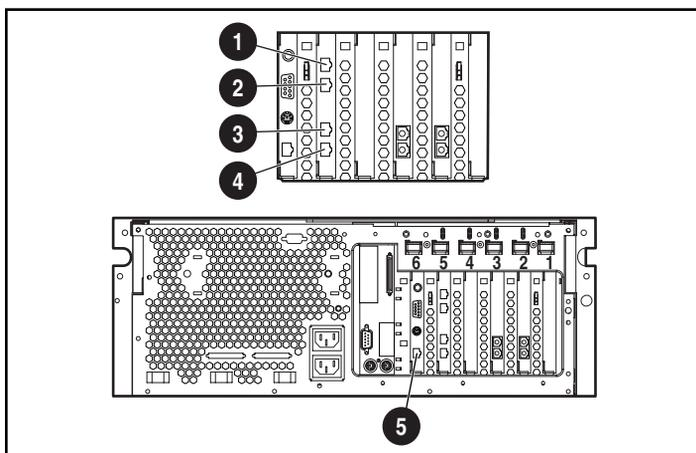

Figure 3-1: NAS E7000 Ethernet connectors
1. Connect the Ethernet cables to the respective network ports of the NAS E7000 and the corresponding network segments in accordance with the information in the “Initialization Information” section in Chapter 2. See Figure 3-1 and Table 3-1 for the locations of the network ports on the NAS E7000.
13. Connect the Ethernet cables to the respective Ethernet connectors in accordance with the information in the “Initialization Information” section in Chapter 2. See Figure 3-1 and Table 3-1 for the locations of the Ethernet connectors on the NAS E7000.